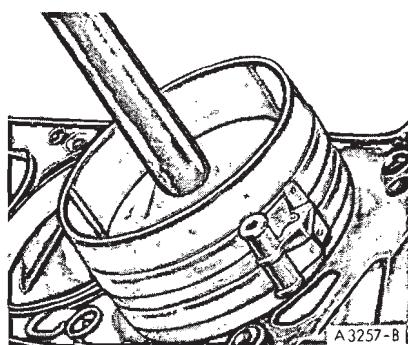

FIG. 34—Installing Piston
4. Install a piston ring compressor on the piston and push the piston in with a hammer handle until it is slightly below the top of the cylinder (Fig. 34). Be sure to guide the connecting rods to avoid damaging the crankshaft journals. **Install the piston with the arrow on the piston head**